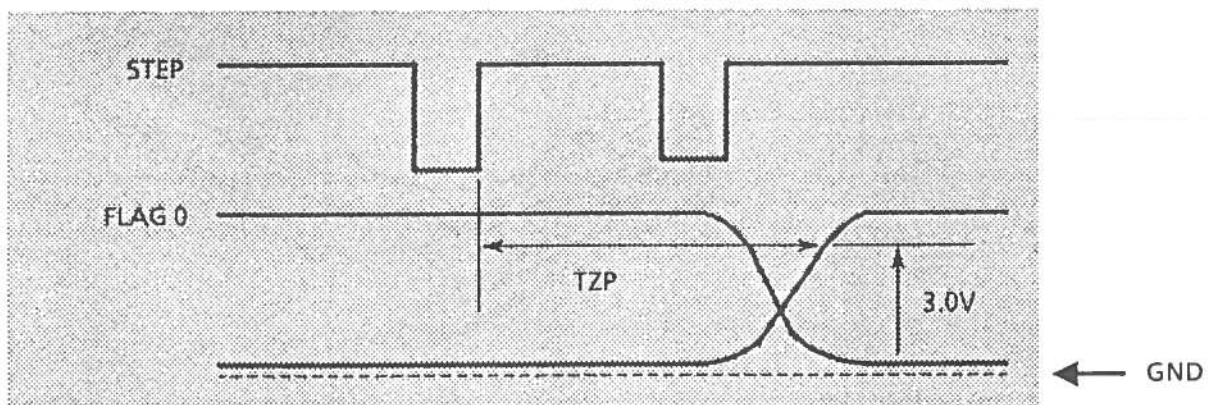

Fig. 9.8 Track 0 Waveform
- (2) Step between specified tracks as shown in the FLAG0 item of Table 8.1, (Turn the seek delay switch on the exerciser to adjust 3 ms seek.)
- (3) Loosen the screw for track 0 assembly so that the waveform on the oscilloscope is as shown in Figure 9.8 and adjust the track 0 assembly position by moving it back and forth.